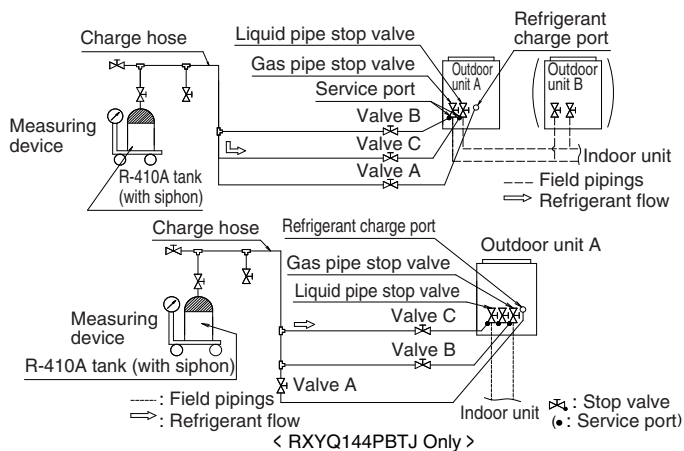

fig. 6
3. Open the valve B (See the figure 6. The valve A,C and the liquid pipe, suction gas pipe, dual pressure gas pipe, equalizer pipe stop valves must be left closed), and charge the refrigerant of the “additional charging amount” from the liquid side shutout valve service port.
- (8) When the required amount of refrigerant is charged, close the valve A (See figure 6) (*8) and press the RETURN button (BS3) once. And then go to procedure (9).
(9) Press the MODE button (BS1) once, and the charging is complete.